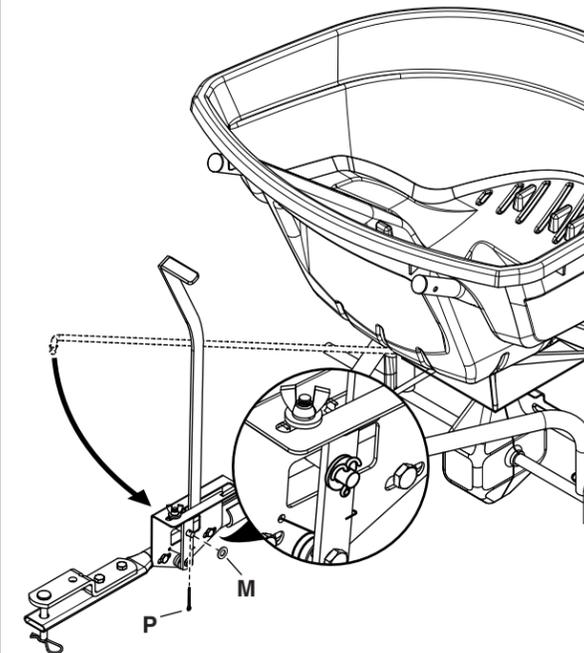

Figure 12
STEP 12: (SEE FIGURE 12)
- Swing the flow control rod (9) around and insert the end of the rod into the flow control arm. Secure it with a 1/4" washer (M) and a 3/32" x 3/4" cotter pin (P).